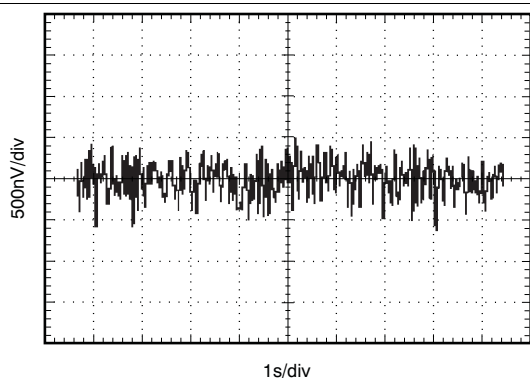

Figure 15. 0.1-Hz to 10-Hz Noise
0.1-Hz to 10-Hz Noise	Figure 15